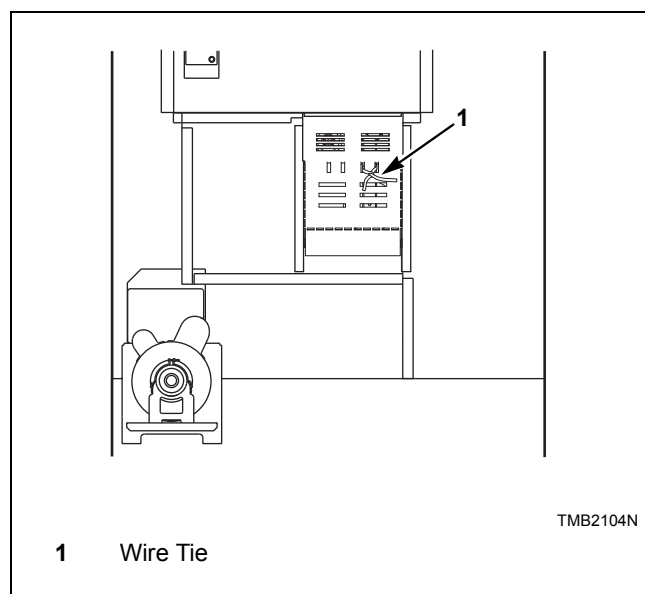

Figure 4
3. Remove and discard wire tie from the airflow switch so it can swing freely. Refer to *Figure 4*.
- Failure to remove wire tie from rear of machine. Refer to *Figure 4*.